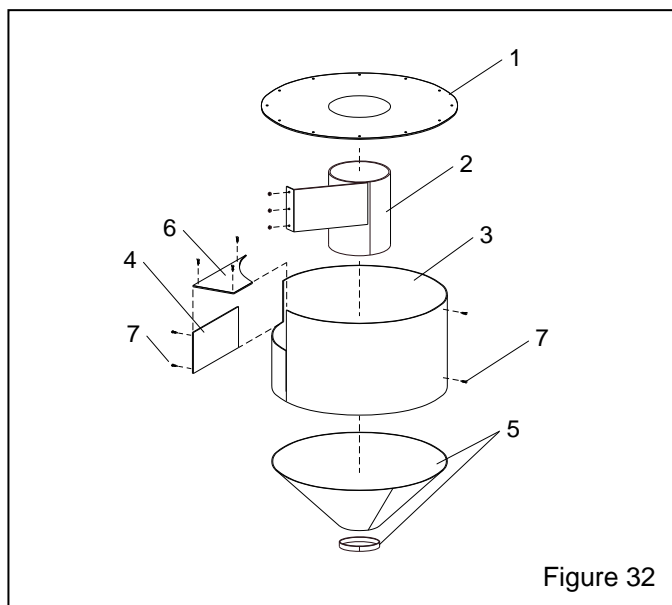

Figure 32
9.11 Reclaimer Liners, Figure 32